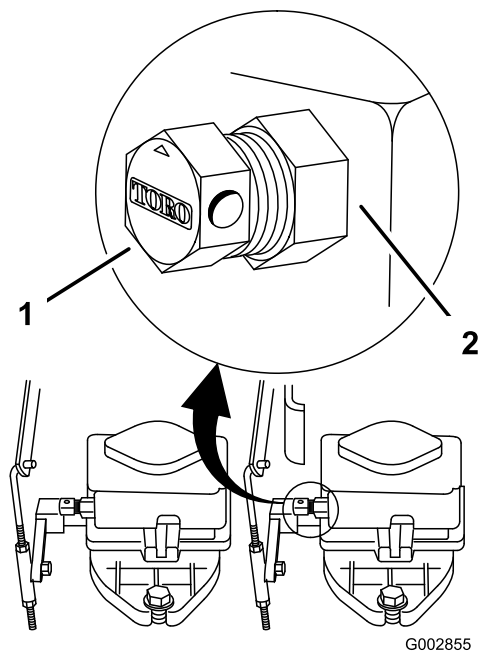

Figure 16
2. Loosen the jam nuts and rotate the by-pass valves open 5 turns to push the machine. This allows hydraulic fluid to by-pass the pump and the wheels to turn (Figure 16).